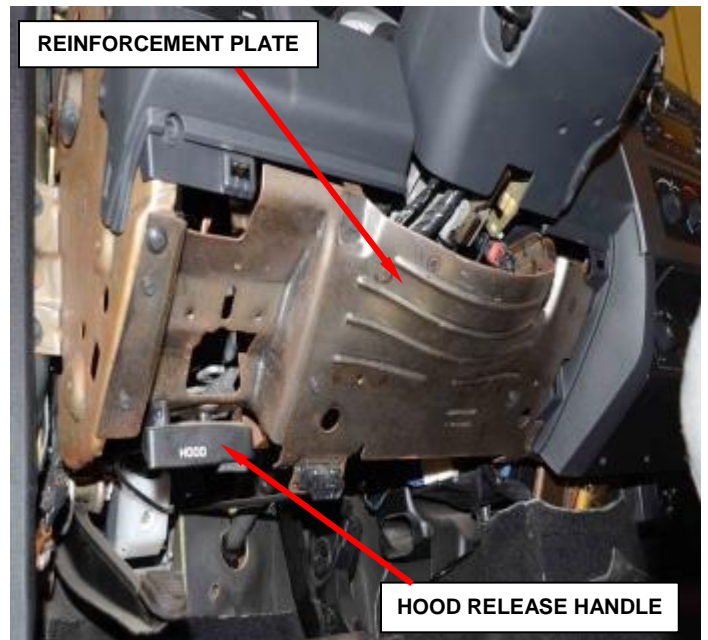

Figure 70 – Steering Column Reinforcement Plate
5. Remove the steering column opening cover and disconnect the parking brake linkage (Figure 70).
6. Remove the steering column reinforcement plate (Figure 70).
7. Remove the two hood release handle screws and position the handle to the side (Figure 70).